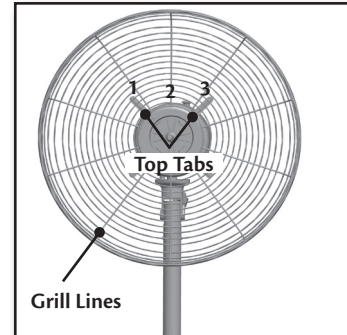

Figure 12
2. Make sure that the grill is positioned so that three of the grill lines are completely between the top tabs. Then place the Back Grill against the Motor Housing, Figure 12., and line up the four tabs on the back of the grill to the four screw holes on the front of the motor.